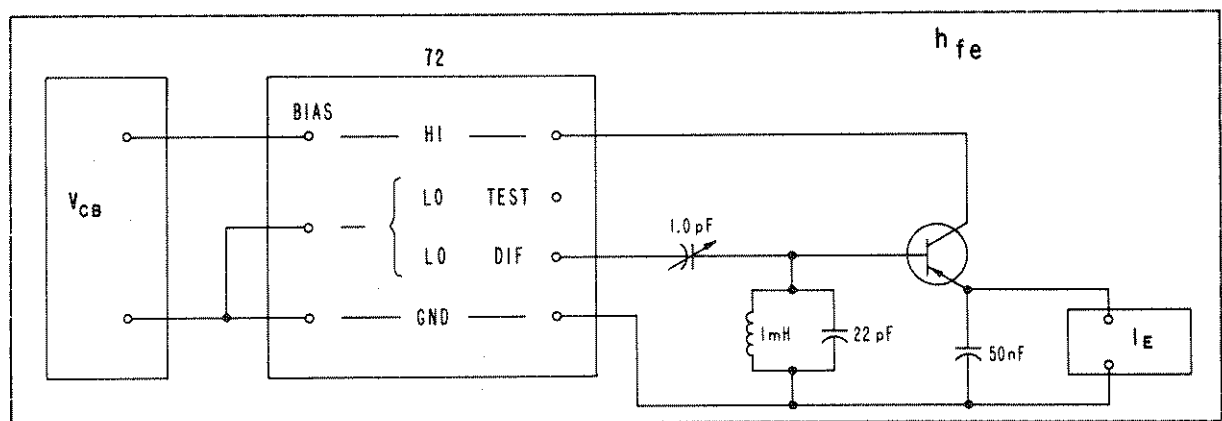

Figure 2-6. Transistor Beta Measurement
C. Beta (h_{fe}). See Figure 2-6.
The variable series capacitor in the base circuit (see Figure 2-6) must be adjusted for a value of 1.0 pF. This is easily accomplished by connecting a small jumper between the socket's base and collector terminals (a "unity-gain transistor"), permitting the direct measurement of this capacitance.